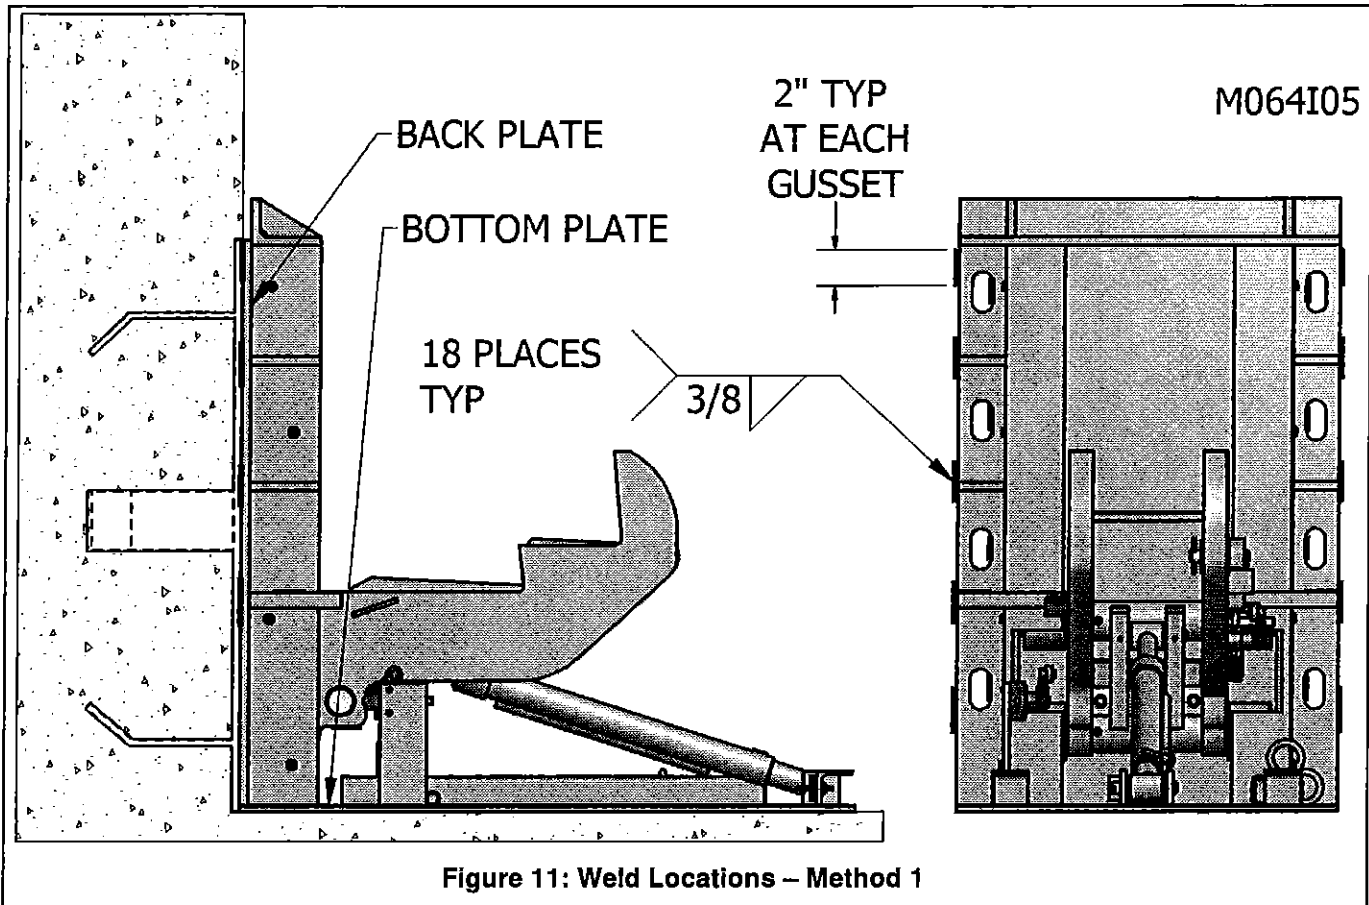

Figure 11: Weld Locations – Method 1
1. Apply a $\frac{3}{8}$ " fillet weld x 2" long to the intersection of the cast in weld plate and the restraint back plate at each gusset on the two sides. Apply an additional $\frac{3}{8}$ " fillet weld x 2" long mid way between the lower gusset and the base plate. Also, weld all slots in the back plate to the cast in weld plate as shown. See Figure 11, page 14.